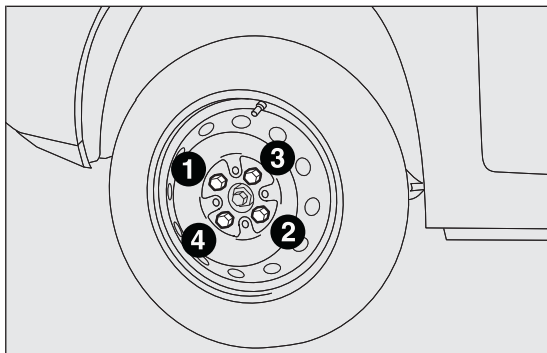

fig. 124
- ❑ use the wrench provided to fasten the bolts completely in a criss-cross fashion as shown in fig. 124.